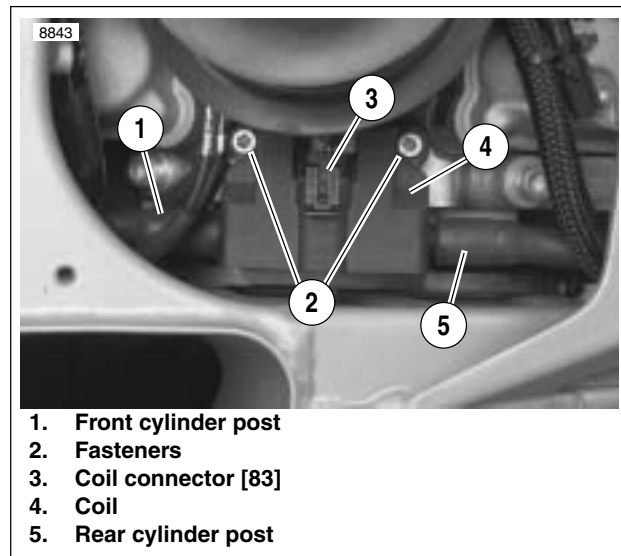

Figure 4-71. Ignition Coil Location
4. See Figure 4-71. Disconnect the spark plug cables from the coil plug posts (1, 5).
5. Detach connector (3) [83].
6. Remove coil fasteners (2).
2. See Figure 4-71. Attach coil to frame with fasteners (2). Tighten to 120-144 **in-lbs** (13.6-16.3 Nm).
4. Attach connector (3) [83].